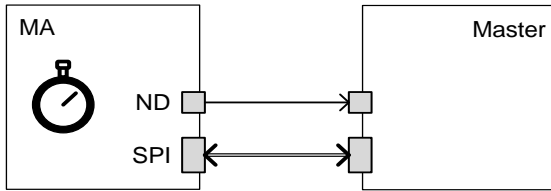

Figure 9: Typical ND Configuration in Continuous ASC Mode
The new data (ND) signal can be used in different ways, depending on the sensor's configuration (see Figure 9).